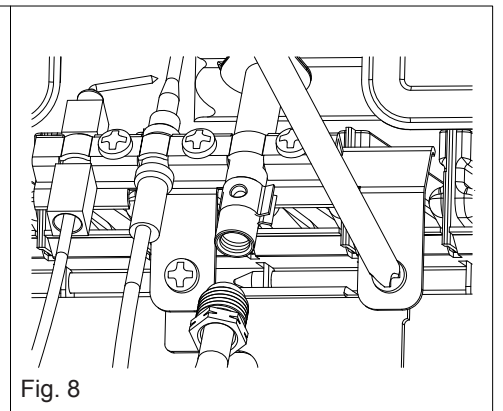

Fig. 8
- Remove the screws that hold the pilot flame in position (fig. 8)